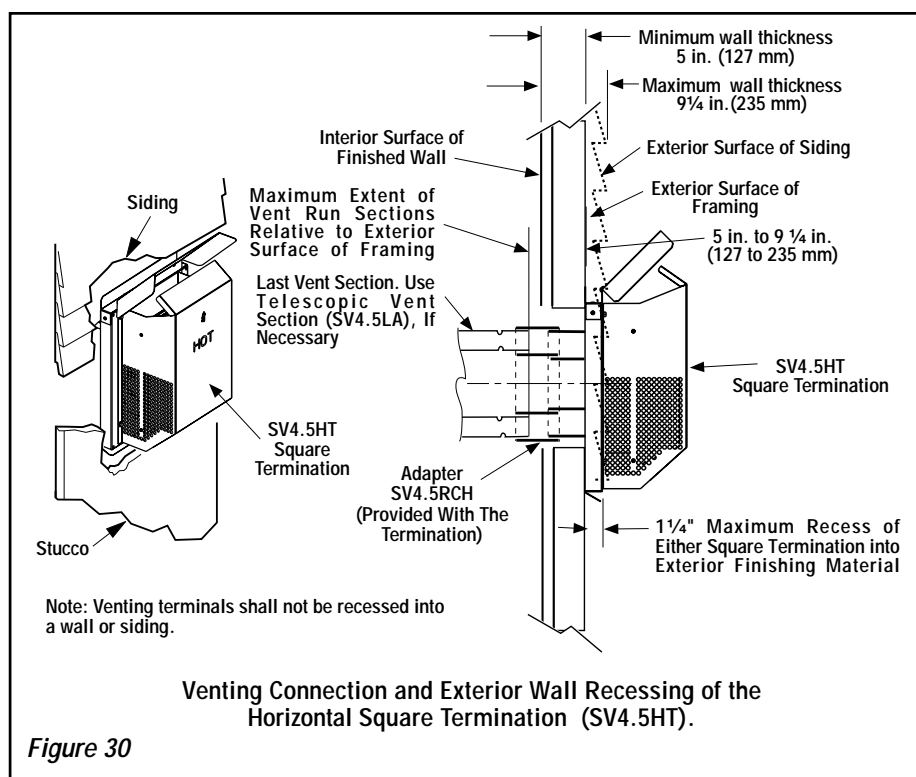

Figure 30
J. Assemble vent run to exterior wall - If not previously measured, locate the center of the vent at the exterior wall. Prepare an opening as described in **Step B**. Assemble the vent system to point where the terminus of the last section is within 5 in. (127 mm) to 9-1/4 in. (235 mm) inboard of the exterior surface to which the termination is to be attached, see **Figure 30**. If the terminus of the last section is not within this distance, use the **telescopic vent section SV4.5LA**, as the last vent section. For wall thicknesses greater than that shown in **Figure 30**, refer to **Table 3 on page 18**. This table lists the additional venting components needed (in addition to the termination and adapter) for a particular range of wall thicknesses.